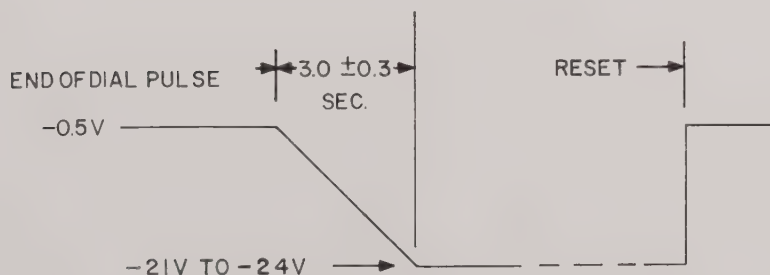

Figure 4-2 Dial Test Unit Typical Waveform
f. Depress RESET, dial the digit "1" and observe the following linear sweep waveform illustrated in fig. 4-2.